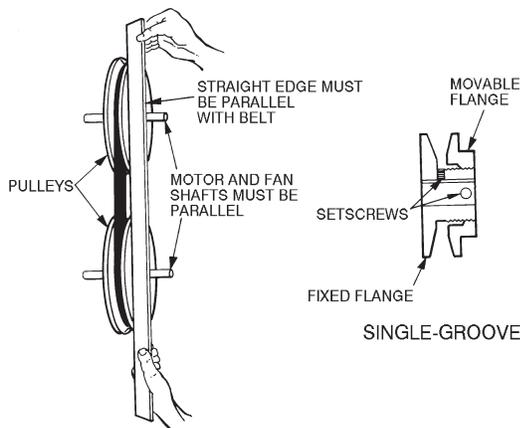

Fig. 6 - Supply-Fan Pulley Adjustment
The motor pulley is an adjustable-pitch type that allows a servicer to implement changes in the fan wheel speed to match as-installed ductwork systems. The pulley consists of a fixed flange side that faces the motor (secured to the motor shaft) and a movable flange side that can be rotated around the fixed flange side that increases or reduces the pitch diameter of this driver pulley. (See Fig. 6.)
3. Loosen movable pulley flange setscrew. (See Fig. 6.)